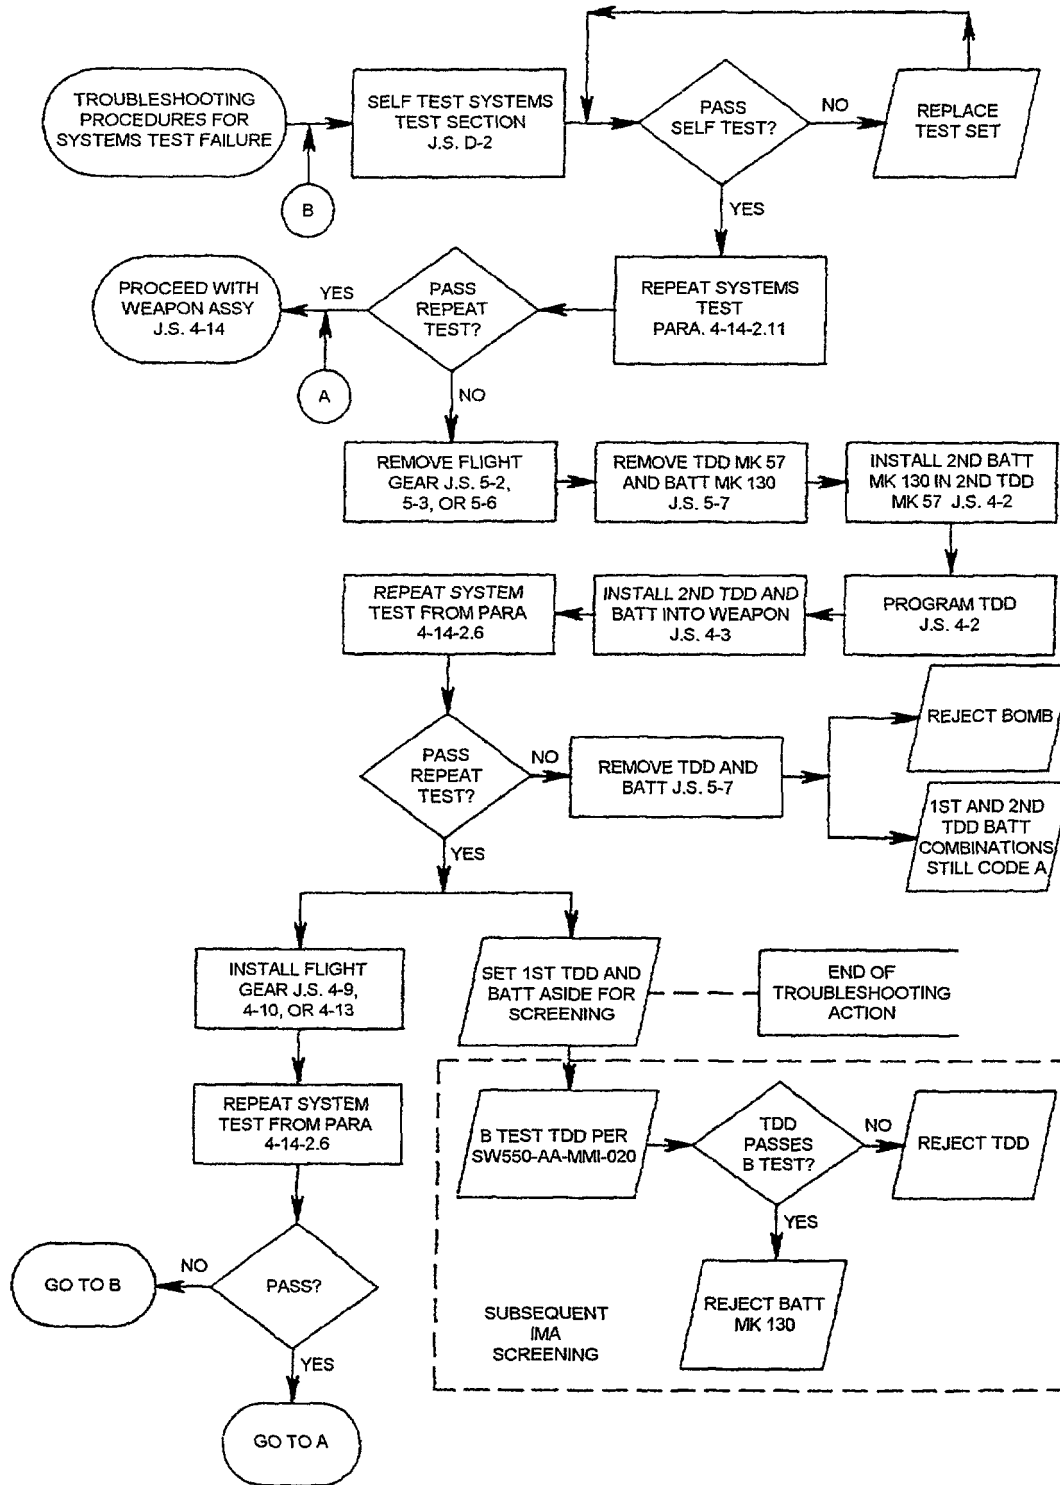
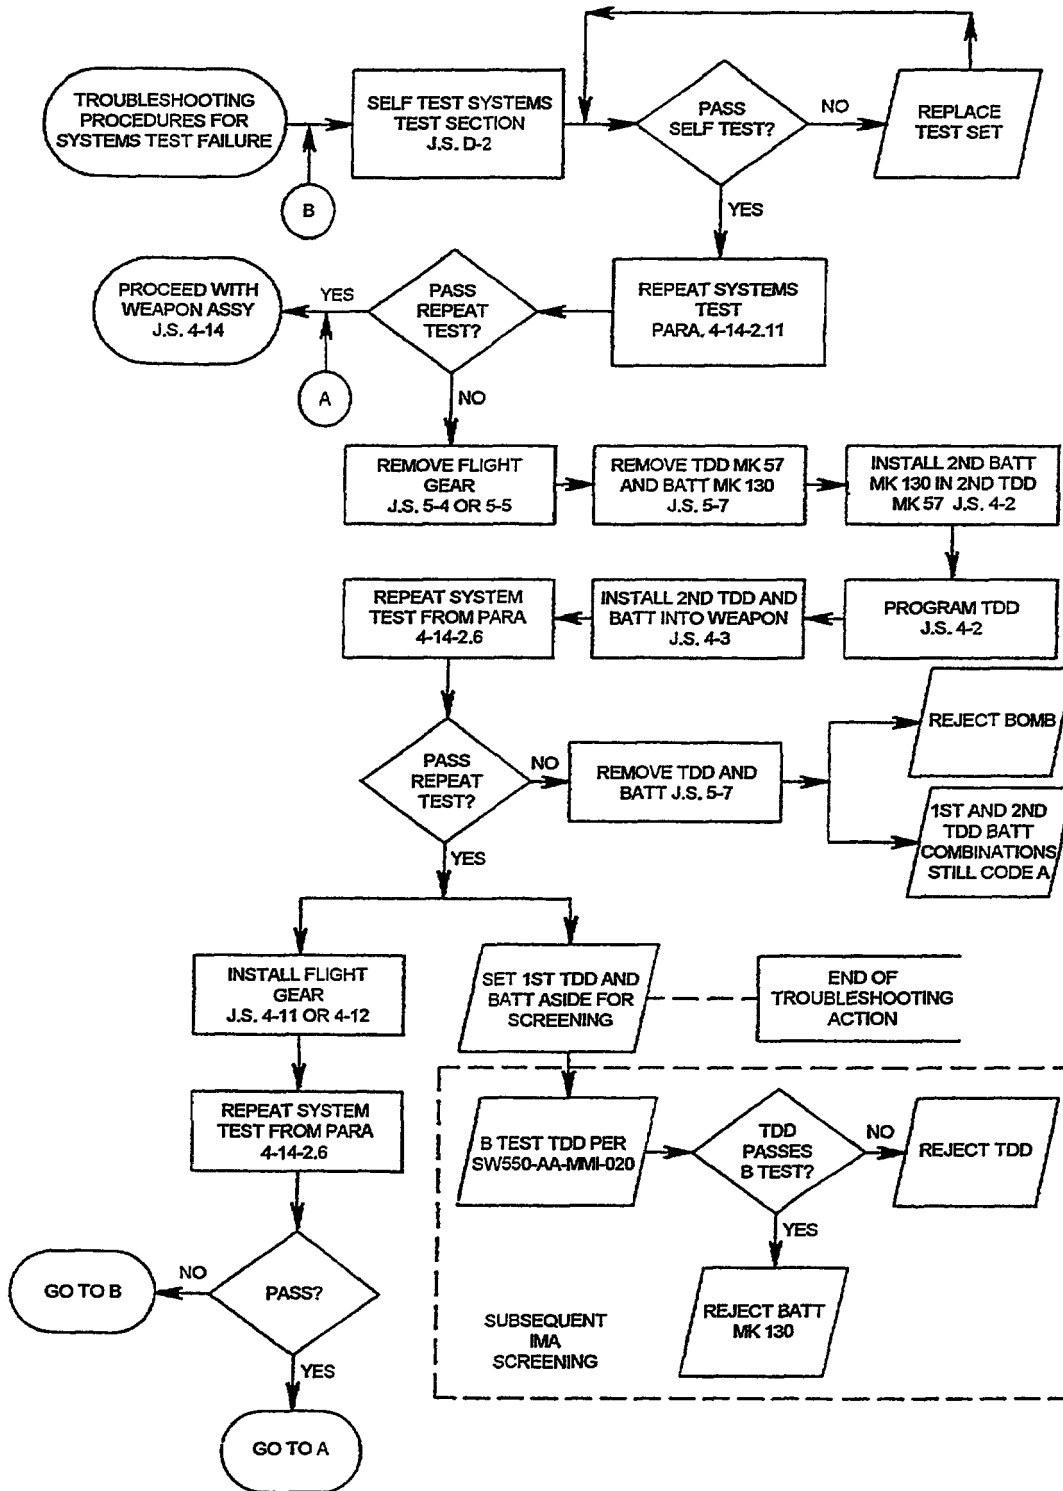

Figure 4-14G. Troubleshooting Procedure for System Test of Mine Mk 62
Figure 4-14H. Troubleshooting Procedure for System Test of Mine Mk 63
- l. Operate ON/OFF switch to ON. All lamps shall light for about a second, then all lamps except the TEST lamp shall go out. Approximately 1 minute after start of test, the test lamp shall go out. If the PASS lamp lights, the weapon has passed the system test. Proceed to step m. If the FAIL lamp lights, hold fuze well adapter firmly in and repeat test. If the FAIL lamp still lights, perform step m and step n and go on to the applicable troubleshooting chart (Figure 4-14G or Figure 4-14H).